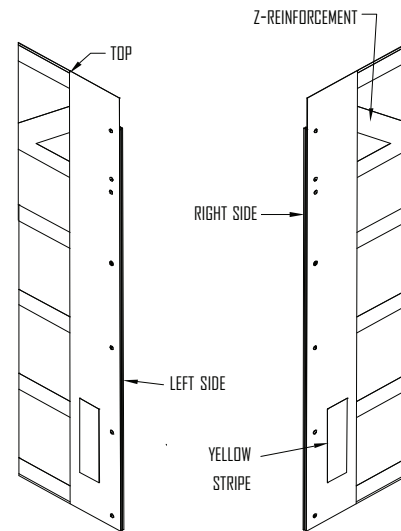

FIG.19
b. Identify left and right side vertical panels (z-reinforcements at top and yellow stripe at bottom) (Fig. 19).